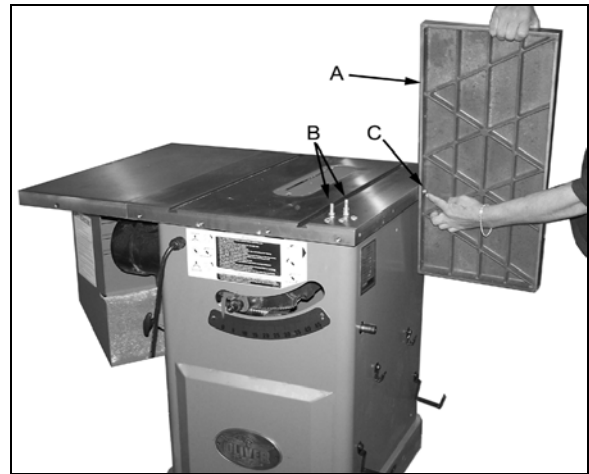

Figure 1
1. Attach extension wing (A, Figure 1) to table with four hex head bolts, and four lock washers (B, Figure 1). Snug but do not tighten. **Note:** Start with one of the center holes (C, Figure 1) to hold the wing in place.